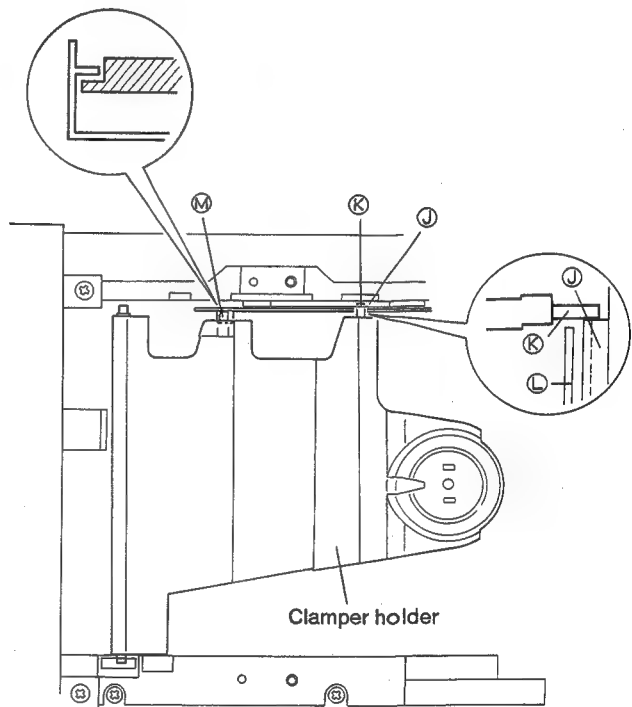

Fig. 10-18.
Only during clamping (tray at play position), clamper holder stops in the state that the ⑩ section of clamper holder is positioned over the upper surface section ⑪ of the gear on loading base, as shown in Fig 10-18.
A stopper to prevent up/down movement is attached at section ① of the slid angle U in Fig. 10-18 to prevent clamper holder from moving up or down due to vibration during transport.